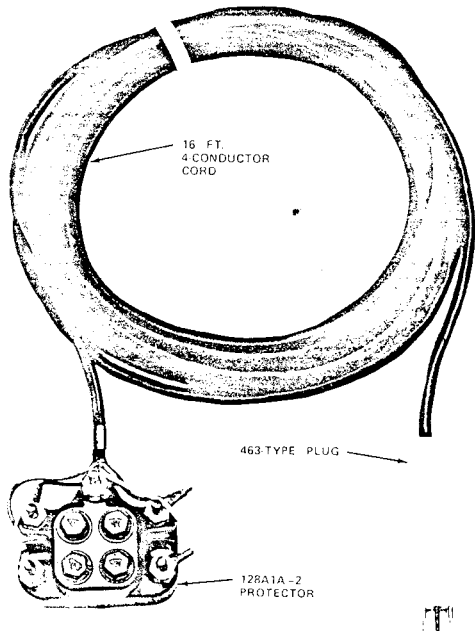

Fig. 8—W4DD TEST CORD
4.01 A W4DD test cord (Fig. 8) is available to provide test access to the cable pairs through the 190-type protector.